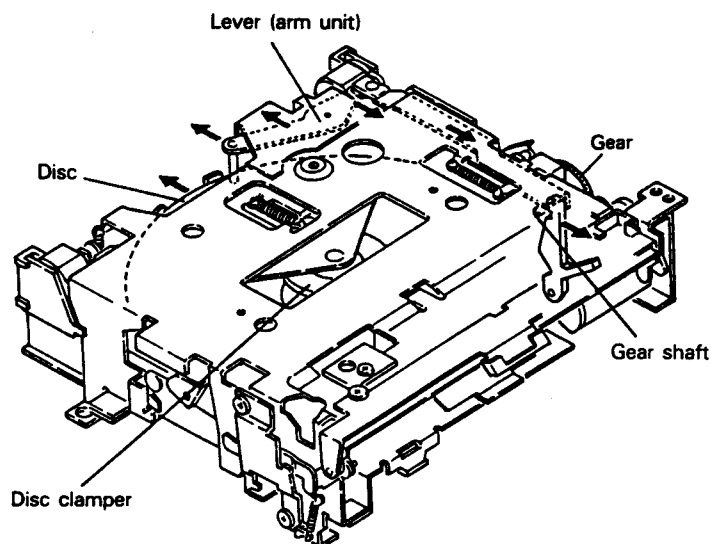

Fig. 12
4. When the disc pushes on the lever, the gear shaft lock is released. The gear meshes with another internal toothed gear and is lowered. (See Figs. 12, 13)